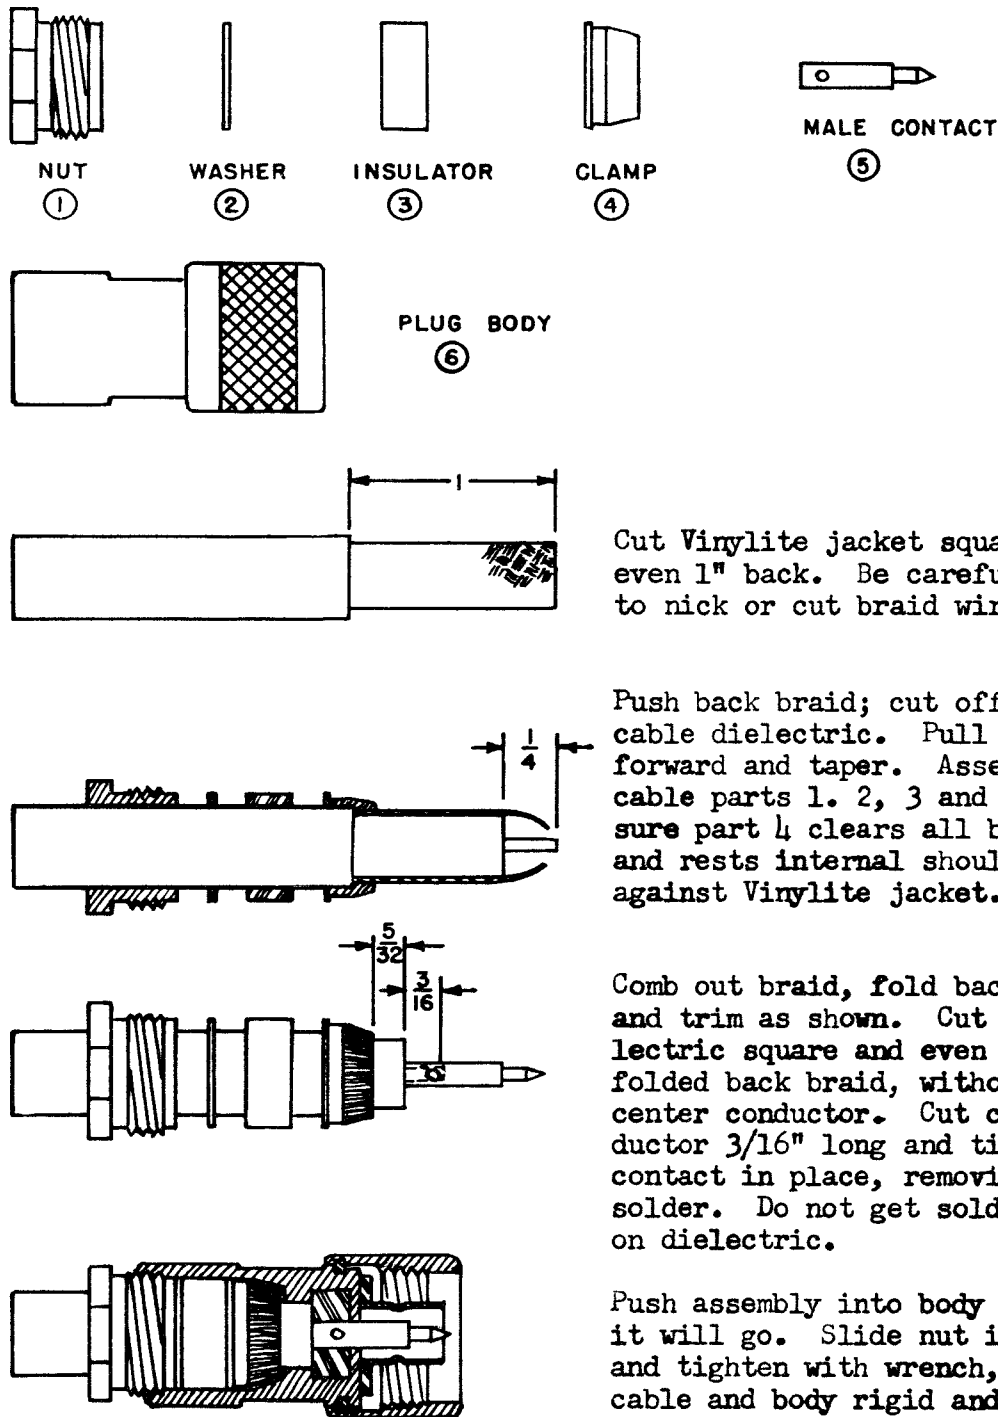

Figure 3-3. Method of Assembling AN Type UG-21 B/U Plug to AN Type RG-8U Transmission Line
d. EXTERNAL CONNECTIONS.—All external connections are brought into the receiver through the rear compartment of the cabinet (see figure 1-3). No connecting external cables are supplied with the AN/FRR-27 equipment, other than the 6 ft W601 test cable; but connectors (plugs) for the receptacles of the rear compartment are provided. A method of assembling the two coaxial antenna plugs and cables is shown in figures 3-3 and 3-4. The types and functions of all three plugs are summarized in table 3-2. A suitable earth ground should be available for connection to the rear compartment GND bolt.